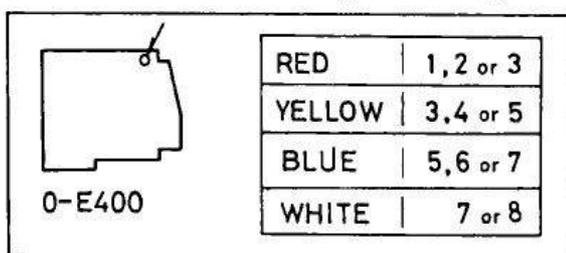

FIG 3-1 E200-400 MATCHING
F400 has a color marking of ^①Red ^②Yellow ^③Blue ^④White at the spot shown in Fig3-1, and E200 has a digit marking of from 1 to 8, according to their operating characteristics.
E200 and F400 should be used in combination shown in Fig3-1.